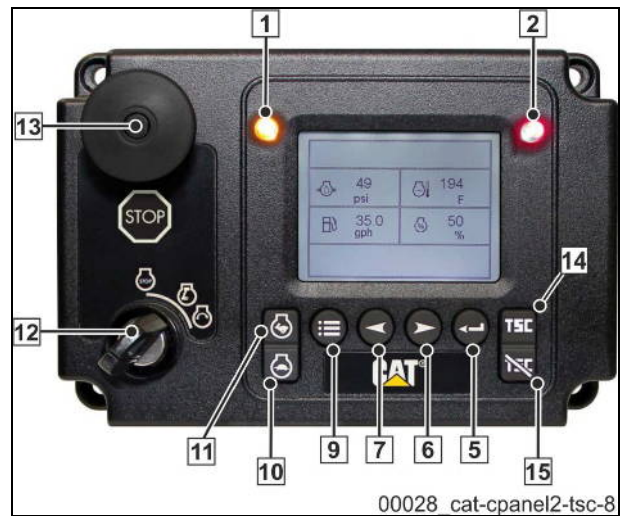

Fig. 9; IOPU Tier 4f, Stage IV, control panel
As soon as the control is switched off using the key-operated switch (12) (Fig. 9) that saved value is deleted.